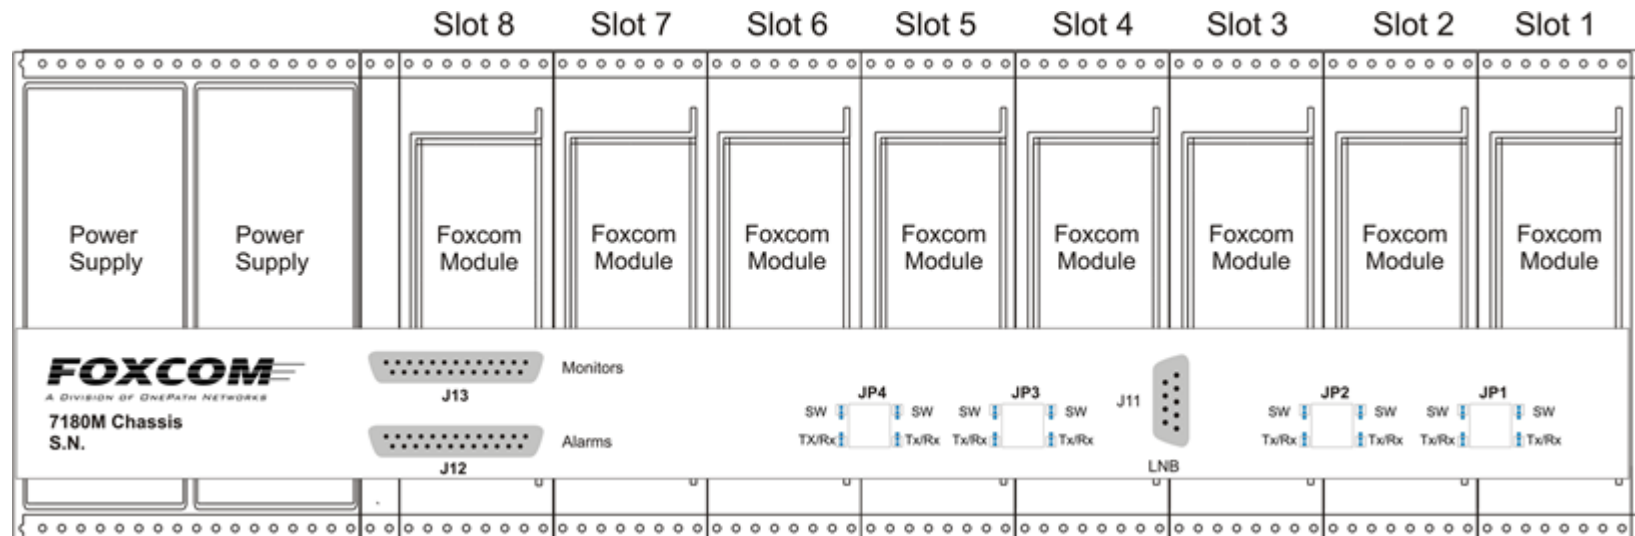

Figure 7 7180M Chassis Rear View
1. Place the Gold Receiver in any of the 7180M Chassis, unless a 2040 RF Switch is installed (see Figure 7 7810M Chassis Rear View on page 12).